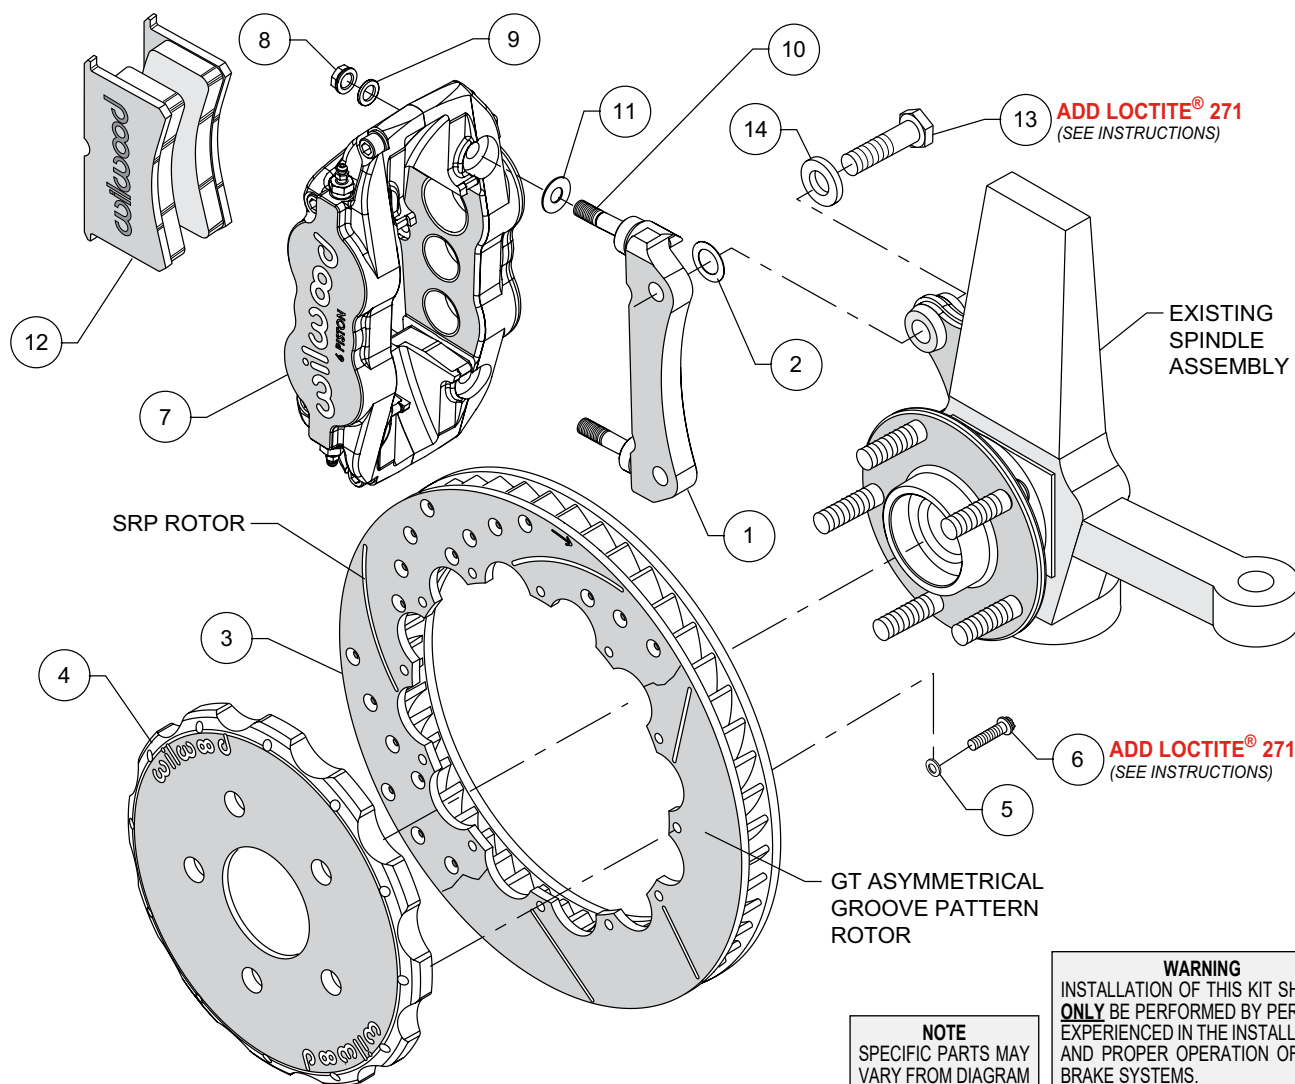
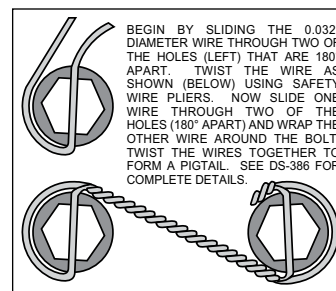

Figure 1. Typical Installation Configuration
Figure 3. Safety Wire Diagram
Assembly Instructions (numbers in parenthesis refer to the parts list and Figure 1 on the preceding pages):
- The caliper mount bracket (1) should initially be installed with clean, dry threads on the mounting bolts. Orient the bracket, as shown in Figure 1 and install using bolts (13) and washers (14). Initially place one .029" thick shim (2) on each bolt between the bracket and upright, Figure 1. Temporarily tighten the mounting bolts. **NOTE:** *The bracket must fit squarely against the mount bosses on the upright.* Inspect for interference from casting irregularities, machining ridges, burrs, etc. Later, after the caliper alignment has been checked, the mount bolts will be secured using red *Loctite*® 271.
- Orient the rotor (3) and the hat (4) as shown in Figure 1 and Photo 1. Attach rotor to hat using bolts (6) and washers (5). Apply red *Loctite*® 271 to the bolt threads and torque to 155 in-lb using a criss-cross pattern. For an added measure of security, the bolts may be safety wired using standard 0.032 inch diameter stainless steel safety wire as shown in Figure 3. Refer to Wilwood's data sheet DS-386 (available at www.wilwood.com/Pdf/DataSheets/ds386.pdf) for complete safety wire installation instructions.
- **NOTE:** *This kit contains distinct right and left hand calipers that must be mounted in a specific direction, as described below.* Initially place one .035" thick shim (11), on each stud (10) as shown in Figure 1 and Photo 2. Mount the caliper (7) onto the bracket (1) using lock nuts (8) and washers (9), Figure 1. Ensure that the caliper is mounted so that the largest pistons are at the rotor exit end of the caliper, in relation to the direction of rotor rotation. Temporarily tighten the lock nuts and view the rotor through the top opening of the caliper. The rotor should be centered in the caliper, Photo 3. If not, adjust by adding or subtracting shims (2) between the bracket and the upright. Always use the same amount of shims on each of the two mounting bolts. Once the caliper alignment is correct, remove the bracket mounting bolts (13) one at a time, apply red *Loctite*® 271 to the threads, and torque to 77 ft-lb.